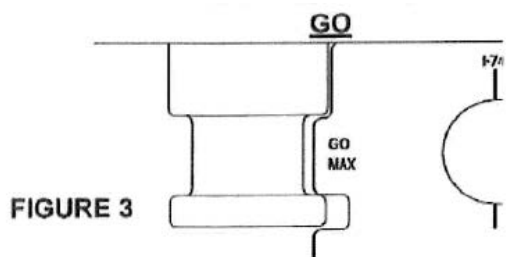

FIGURE 3
**Important:** Be sure to hold the gage edge flat to the upper coupler. Check both the "MAX" end and the "MIN" end as shown in figures 3 and 4.